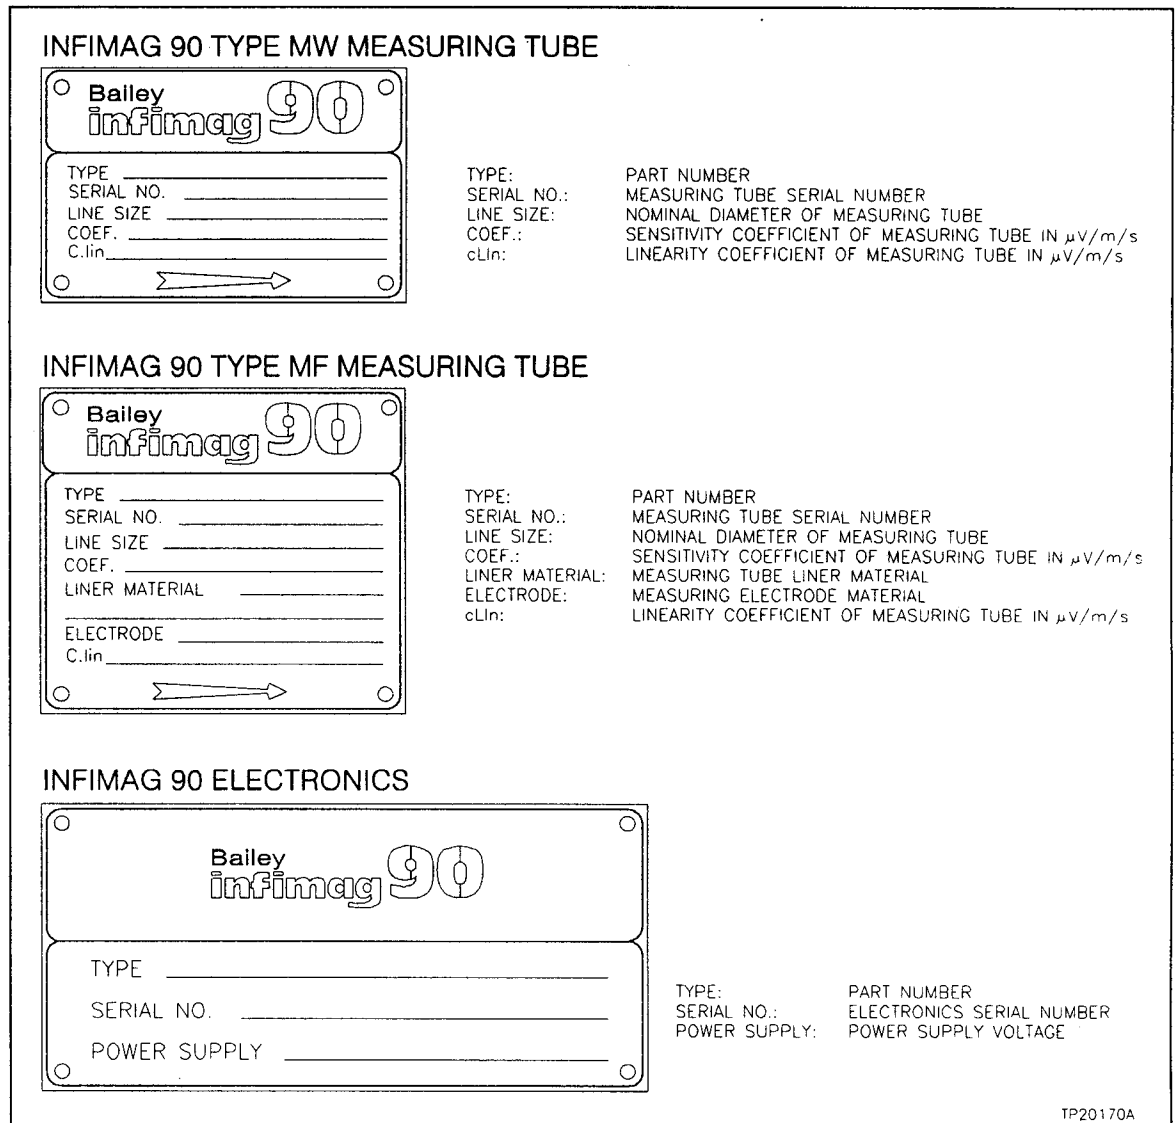

Figure 3-1. INFIMAG 90 Flowmeter Equipment Identification
4. Inspect the nameplate to verify the unit received matches the desired function. See Figure 3-1 for an illustration of the nameplates. Each flowmeter comes with two nameplates. There is one on the measuring tube and one on the electronics.